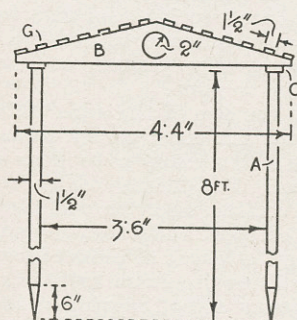
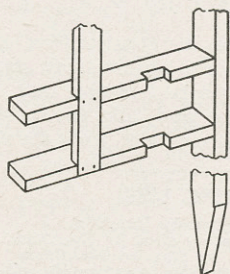

Fig. 1—Broken front view with dimensions
Fig. 3—Constructional details, showing how lathes are sunk into the post rail
Having cut and planed the posts and rails to size, point the ends of the former as seen at Figs. 1 and 3. The rails (D) are then checked  $1\frac{1}{2}$  ins. by  $\frac{1}{2}$  in. for the side laths (E) as shown. These rails are simply nailed (with flat nails) between the post at the distances detailed in the elevation at Fig. 2, or you could check for them  $\frac{1}{4}$  in. deep in the posts.
Nail the side laths (E) into the checks (with small flat nails) as at Fig. 3. As the arch is erected in three separate portions, proceed with the construction of the roof. If the size suggested is suitable, shape the rafter pieces (B) from  $\frac{5}{8}$  in. or  $\frac{3}{4}$  in. stuff as detailed at Fig. 1. The top bars (C) are drilled and countersunk for  $1\frac{1}{2}$  in. by 8 flathead iron screws to hold the rafters zins. from the ends. If desired, two rafters (one at each end) would suffice.